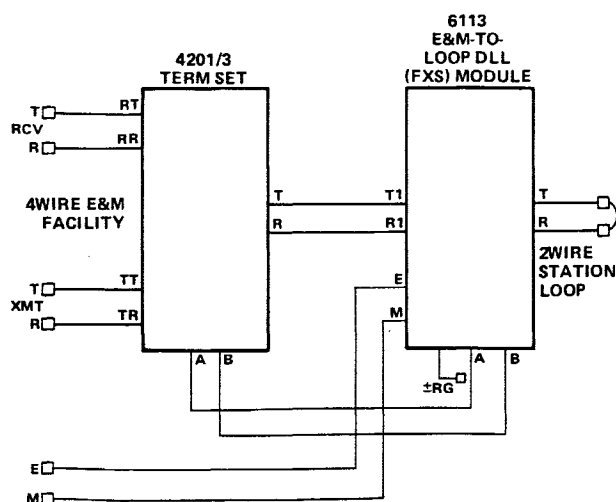
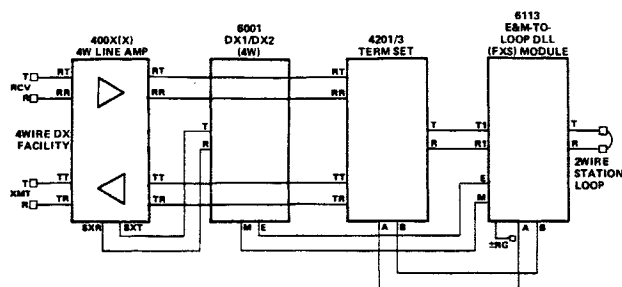

figure 2. 6113 in 4wire E&M-to-loop application
figure 3. 6113 in 4wire DX-to-loop application
2.01 The 6113 E&M-to-Loop DLL (FXS) Module is used at the station end of either an FX or an OPS circuit to provide a loop-to-E&M signaling interface. The 6113 is typically used with an associated term set or repeat coil in a 2wire circuit. The main application of the 6113 is as a stand-alone loop-to-E&M converter that interfaces T-carrier, out-of-band signaling, or a 4wire E&M signaling facility directly. Figure 2 shows one possible application of this type. Other applications are possible for the 6113 and term set/repeat coil as well. Figure 3 shows one such application: when used with a Tellabs 6001/6002 DX Signaling module, the 6113 provides an FXS arrangement with DX facility signaling.
2.07 The primary application of the 6113 (with associated term set or repeat coil) is as a stand-alone pair used to convert loop signals from the station end to E&M signals for direct interface with a transmission facility using E&M signaling. This application is most commonly encountered in applications involving T-carrier channels, out-of-band signaling, or 4wire DX circuits interfacing a station loop. Figure 2 shows a typical application of this type.
2.09 In 2wire applications, no external facility-interface module is needed because the 6002 and 6041 modules contain the necessary repeat coil. In 4wire applications, such as that shown in figure 3, additional modules may be required. On the 6113's facility side, a line amplifier (e.g., a Tellabs 4001) or a pad/transformer module (e.g., a Tellabs 4411) must be used to derive transmit and receive simplex leads for inputs from the facility to the 6001. (As an alternative, the 6044 Network Terminating Module can be used in lieu of a 6001 and 4001/4411 combination.) On the station side, a term set (e.g., a Tellabs 4201 or 4203) provides the 4wire-to-2wire termination and level control. Alternatively, the 6042 Network Terminating Module can be used to provide the 4wire-to-2wire termination, level control, and DX signaling required in a 4wire DX-to-loop application.